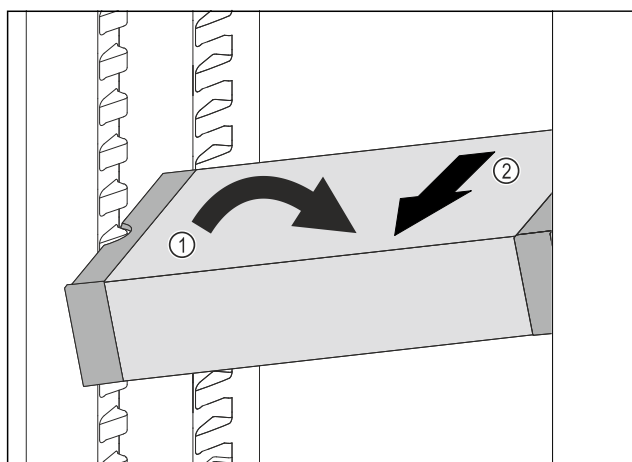

Fig. 106
- Set VarioSafe in refrigerator compartment at an angle. Fig. 106 (1)
- Take VarioSafe out to the front. Fig. 106 (2)